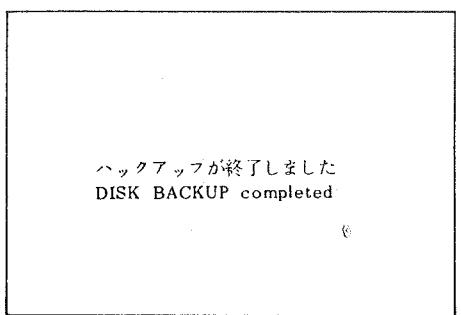

Fig. 9
(4) After repeating the procedure in (2) and (3) above, several times, BACKUP is completed when the Fig. 9 is shown. After the completion of the BACKUP, set the master disk PROTECT SWITCH to WRITE OK.